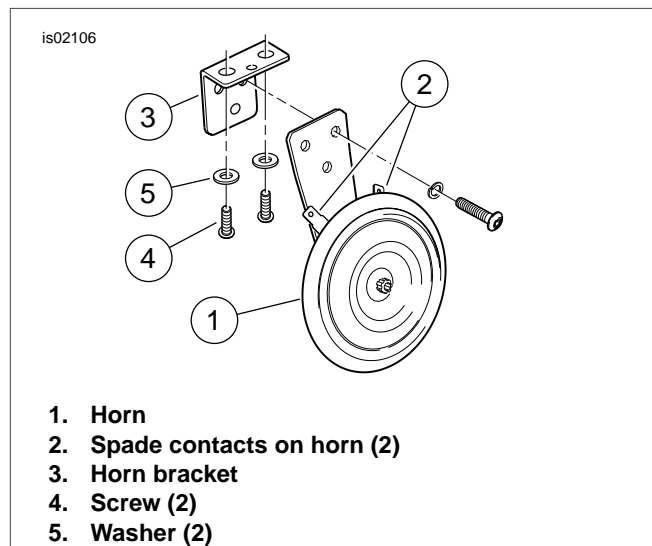

Figure 1. Original Equipment Horn Removal (XL except 1200C)
2. **All XL models except 1200C:** See Figure 1. Remove the elbow terminals from the two spade contacts (2) on the horn (1).